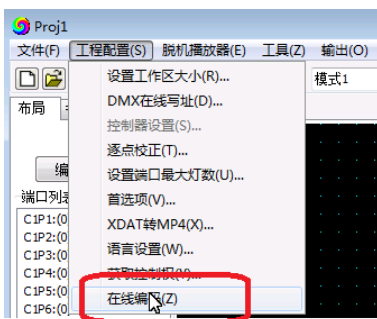

Figure 1
- 1.2. Open the software LedPlayer-k and click on "Project Configuration" as shown in Figure 1.